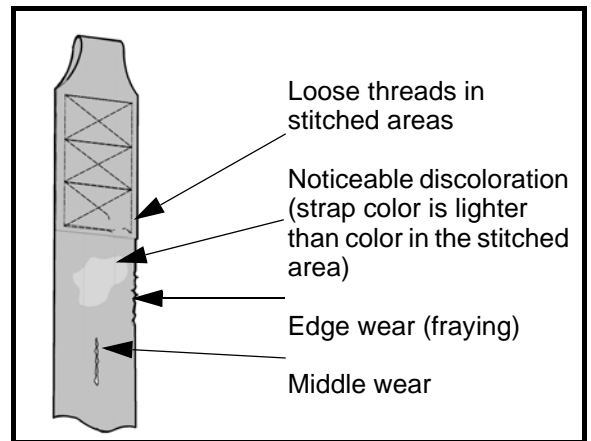

Fig. 37
- 2) Look for any signs of wear or discoloration (see Fig. 37).